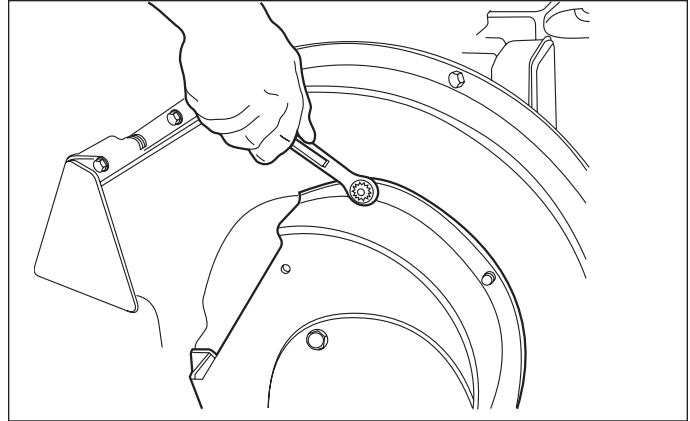

Figure 13. Removing the Rotor Housing
4. Remove the rotator cover by removing the hardware that secures it to the main housing (Figure 13).
4. Remove the rotator cover by removing the hardware that secures it to the main housing (see Figure 13).